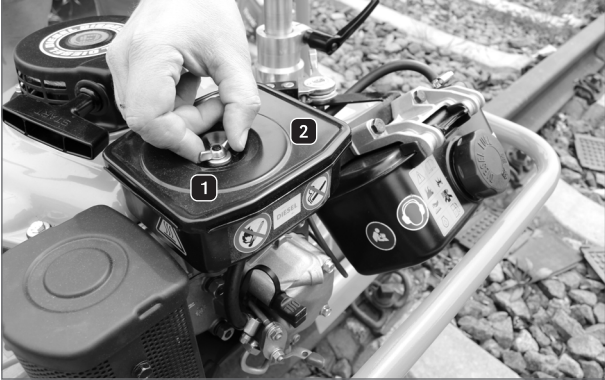

Figure 31: GP 4000 D - Check the air filter 1
2. Position the machine so that the air filter is in a horizontal position (see Figure 31 "GP 4000 D - Checking the air filter 1") and secure the machine against falling over.